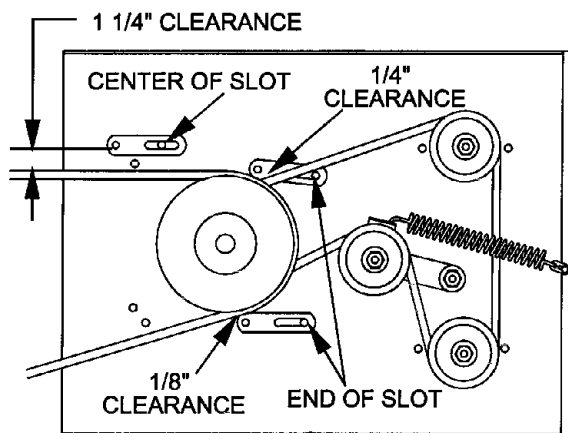

FIG. 12
- d) Check belt guides under the engine deck for proper adjustment (See Figures 12 and 13). Adjust as necessary. The **disengaged belt should not drag or fall off** pulley when guides are properly adjusted.